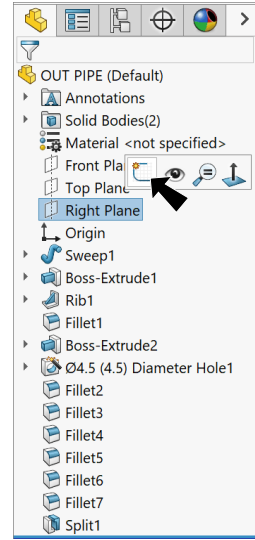

Fig. 56
Step 1. Click **Right Plane**  in the Feature Manager and click **Sketch**  on the context toolbar, **Fig. 56**.